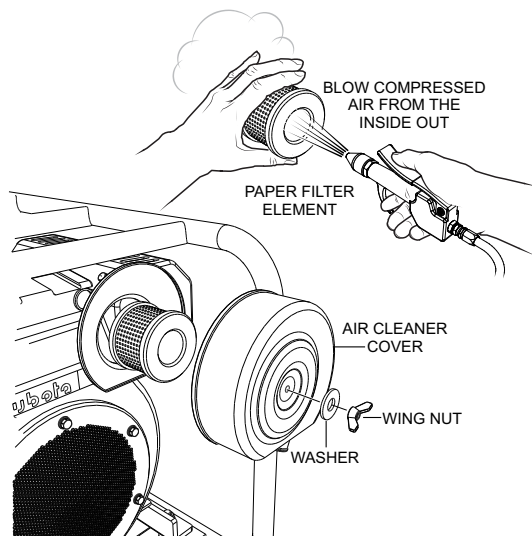

Figure 13. Engine Air Cleaner
1. Loosen the wing nut and detach the cover of the air cleaner shown in Figure 13.
2. Tap the element (Figure 13) several times on a hard surface to remove dirt, or blow compressed air [not exceeding 30 psi (207 kPa, 2.1 kgf/cm2)] through the element.